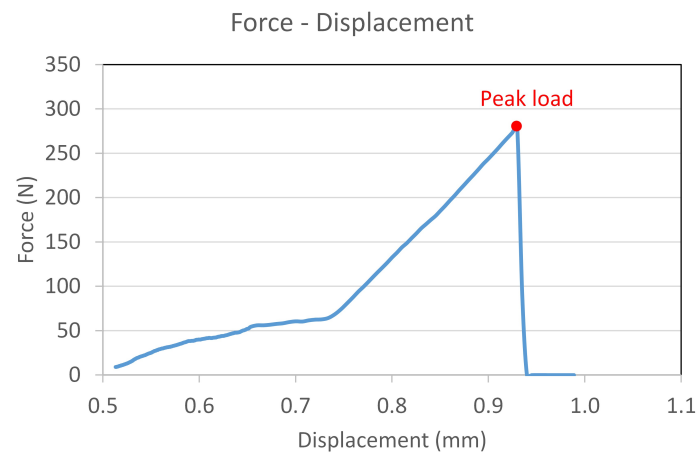

Figure 2: A typical load-displacement curve for a three-point bending test.
To perform the test, we use a universal testing machine by INSTRON (Model 8862 with ± 100 kN loading capacity) as shown in Figure 1. The type of fixtures used in this machine can be changed to accommodate tensile, compressive, and bending experiments. The data obtained from this test are the load (F) measured by the load cell, the machine displacement (d) and, if a crack-mouth opening displacement (CMOD) gauge is installed, the elongation Δ of a portion of material with length equal to the gauge length L_G (in our case $L_G = 10$ mm). A typical load-displacement curve under three-point bending experiment is shown in Figure 2.
To find the flexural strength of the material, the peak load (F_{max}) (designated with a red circle in Figure 2) must be substituted in Equation 1 to obtain M_{max} , which can then be used in Equation 2a to determine the flexural strength (σ_F). Also, to identify the flexural modulus of the tested material, it is customary to consider as linear elastic region the part of the engineering strain vs. stress curve within a range of 20% – 60% of the peak load. Therefore, the flexural modulus E_{flex} can be obtained as the slope of the linear relation best-fitted to the linear range of the stress-strain data points.